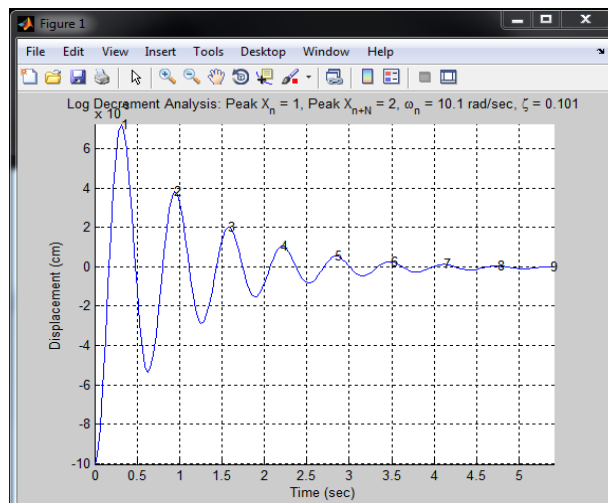

Figure 10: Locate Decrement Figure with estimates
16. Select **Make Log-Decrement Figure** to get a plot and summary of the results. You need to include this figure in your memo (see Figure 10).